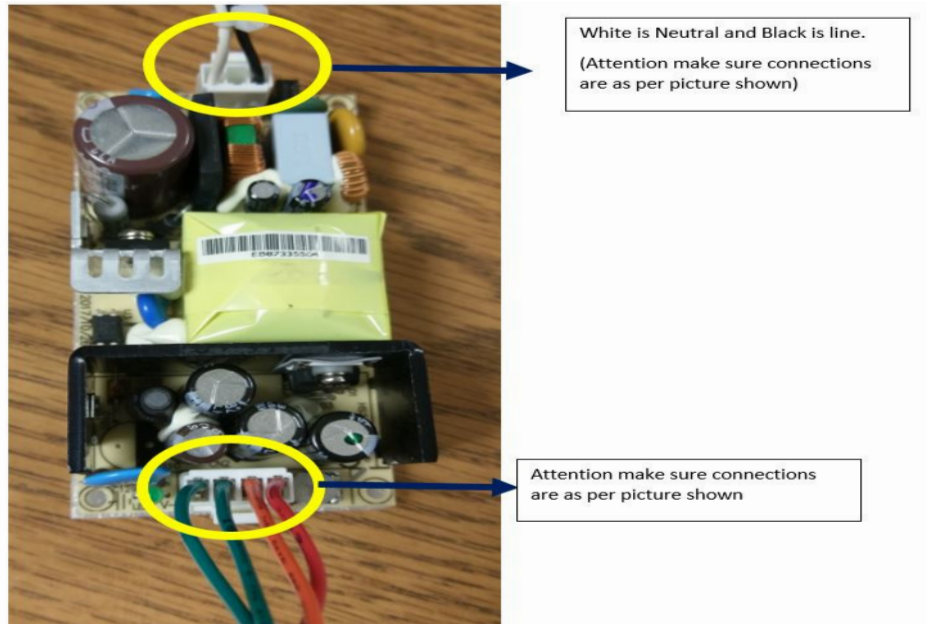

Figure 7. Power Supply for Service
15. Using harness 192105 connect the power supply DC output to Micro board DC input connector. Refer to Figure 7.